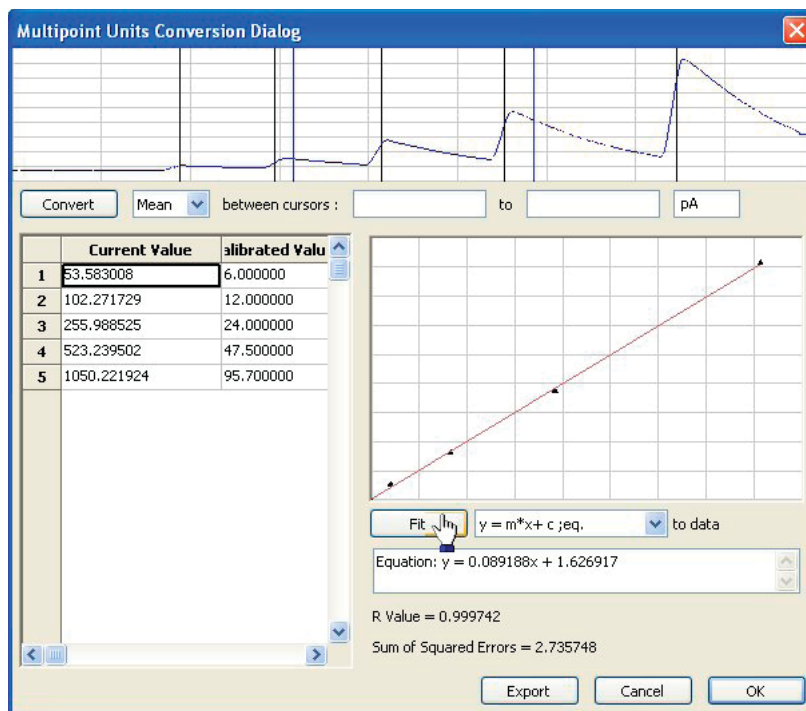
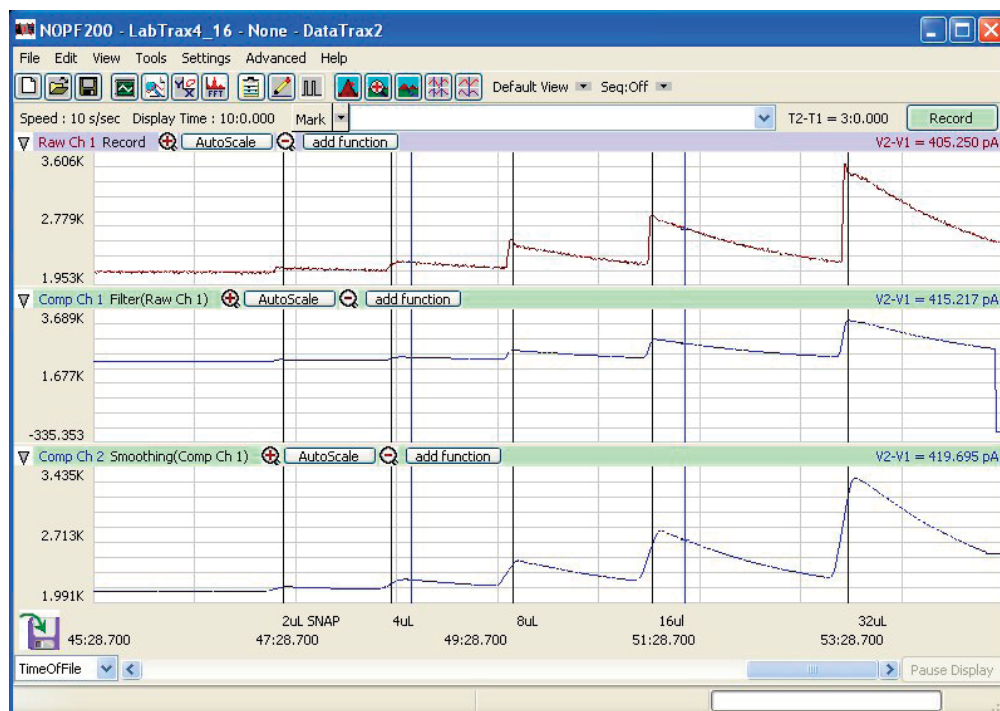

Fig. 46—Multipoint Units Conversion dialog box, with graph
Fig. 49—Raw Data in channel 1, filtered data in first comparison channel (Comp Ch 1), smoothed data in second comparison channel (Comp Ch 2)
10. After all the values have been entered, click the **Fit** button to generate the linear regression equation and its R value. The calculated conversion graph then appears on the right side of the dialog box, and the equation and R value are printed below it. The closer the R value is to one, the greater the accuracy of the calibration (**Fig. 46**).
11. If desired, export the equation to a text file by pressing the **Export** key (**Fig. 46**).
4. Click the **OK** button. A new comparison channel displays at the bottom of the main LabScribe window. When applied to the raw data in Figure 46, a typical Hamming filter generates a less noisy output trace similar to the raw data in channel (Fig. 49).